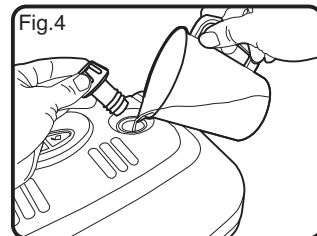

Fig.4
- During use, do not tip the body of the steam mop back (Fig.4), or lift it off the ground so that the body hangs vertically (Fig.5).
- When empty, using the measuring jug supplied, add 400ml of water to the tank and screw the top on firmly (Fig.4).